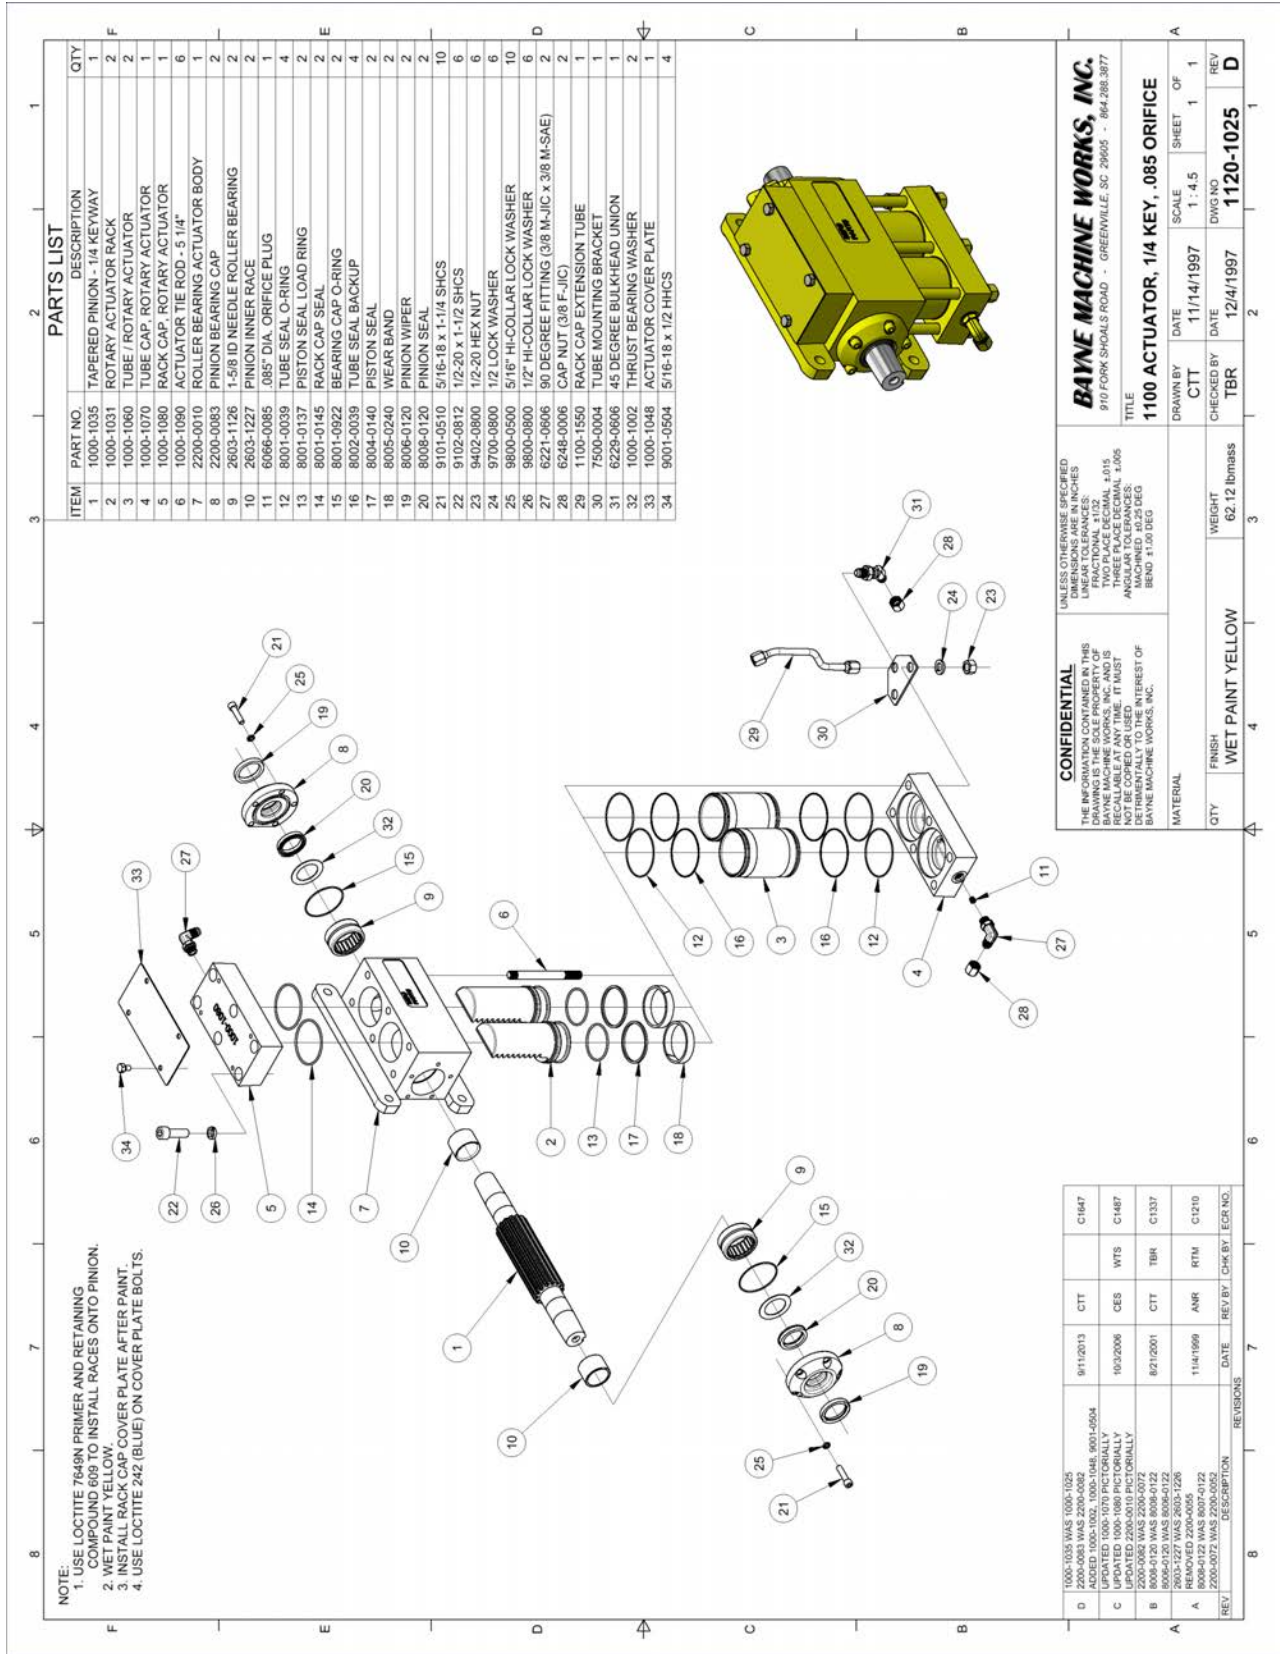

figure A-13
Before starting the assembly of the Rotary Actuator, refer to the exploded parts drawing and parts list (fig. A-13 found at the end of these instructions) to familiarize yourself with the individual components. Prepare a clean surface, in an area free of blowing dust and contaminants in which to assemble the Rotary Actuator. Be sure that all parts are thoroughly clean and dry before starting assembly.
2. Install the tube seal (12) (fig. A-2) and “square” tube seal backup (16) on each end of the actuator tubes (3) (fig. A-13). Be sure that the “square” tube seal backup ring is toward the inside of the tubes at both ends as shown. Press all rings firmly into the grooves. Repeat this procedure for the other tube.
- Coat the head portion of the racks (2) (fig. A-13) with STP Oil Treatment. Install the racks, head portion up with the teeth facing the flanges of the actuator body, into the dual set of bores in the body. Simultaneously slide the racks into the bores so that the racks mesh with the pinion in the same position. Rotate the pinion shaft to engage the racks into the pinion.
7. Coat one end of the actuator tubes (3) (fig. A-13) around the seal area with STP Oil Treatment as shown in figure A-7. Using a rubber mallet, drive the coated end of the tube onto the exposed rack until the tube end seats in the actuator body, making sure that the seals remain in place as the tube enters the counter-bore. Repeat this procedure for the other side.
8. Install the six tie rod studs (6) (fig. A-13) by screwing the short threaded end into the actuator body. Hand tighten only at this time (the torque needed will be applied later in the procedure).
9. Place the tube cap (4) (fig. A-13) on the table. Coat the sides of the two bores in the tube cap with STP Oil Treatment. Install the cap over the tubes and rod studs with the oil port positioned to the left as shown in figure A-13. Using a rubber mallet, tap the tube cap over the tubes until the tubes seat in the cap, making sure that the seals remain in place.
10. Place the tube mounting bracket (30) (fig. A-13) over the two end rod studs opposite the oil port in the tube cap as shown in figure A-13.
11. Install the hex nuts (23) (fig. A-13) and lock washers (24) on the tie rod studs. Torque the nuts to 50 ft-lb. in the sequence shown in figure A-8.
12. Place the rack cap (5) (fig. A-13) bore side up on the table and coat the edge of each bore with STP Oil Treatment. Install the rack cap seals (14) (fig. A-9) in the rack cap.
13. Reposition the actuator on the table mounting flanges down, and the lower tubes facing away from the assembler. Rotate the pinion shaft to allow 1" of the rack to protrude from the top of the actuator body. Install the rack cap with the oil port positioned to the left hand side of the actuator opposite the bottom oil port located in the tube cap as shown in figure A-13. Attach the rack cap to the actuator body using the socket head bolts (22) (fig. A-13) and lock washers (26). Torque the bolts to 90 ft-lb. in the sequence shown in figure A-10.
15. Re-center the actuator pinion in the actuator body by tapping on one end of the shaft with a rubber mallet. Install the roller bearing (9) (fig. A-13), over the pinion shaft and inner race, and into the actuator body. Repeat this procedure for the other bearing.
18. Wrap masking tape or electrical tape around the pinion to cover the edges at the keyway. Slide the bearing cap assembly over the pinion shaft with the bearing cap seal facing toward the actuator body and the flat surface of the flange shown in figure A-12 facing toward the actuator mounting flanges. Press against the bearing cap until the shoulder seats against the actuator body, making sure that the seals remain in place. Install the bearing cap bolts (21) (fig. A-13) and lock washers (25). Hand tighten only at this time. Repeat this procedure for other bearing cap.
20. Install the 90° fitting (27) (fig. A-13) into the oil port on the side of the rack cap (5). Hand tighten only at this time.
21. Install the 45° bulk-head fitting (31) (fig. A-13) up through the hole in the tube mounting bracket (30) bolted to the tube cap as shown in figure A-13. The 45° end must be pointing down away from the rack cap (5) and back toward the mounting flanges on the actuator body. Hand tighten only at this time.
22. Install the rack cap extension tube assembly (29) (fig. A-13) between the 90° fitting in the rack cap and the 45° fitting in the tube mounting bracket as shown in figure A-13. Tighten all connections.
23. Install the orifice plug (11) (fig. A-13) into the oil port on the side of the tube cap (4), and install the 90° fitting (27) into the oil port over the orifice plug as shown in figure A-13. Turn the fitting so that it points down away from the rack cap (5) and back toward the mounting flanges on the actuator body and tighten.
24. Install the cap nuts (28) (fig. A-13) onto the open fittings to prevent contamination of the unit until the hoses are installed.
25. Install the actuator cover plate (33) (fig. A-13) onto the rack cap (5) using the cover plate bolts (34). Be sure to use *LOCTITE THREADLOCKER 242* on the cover plate bolts.